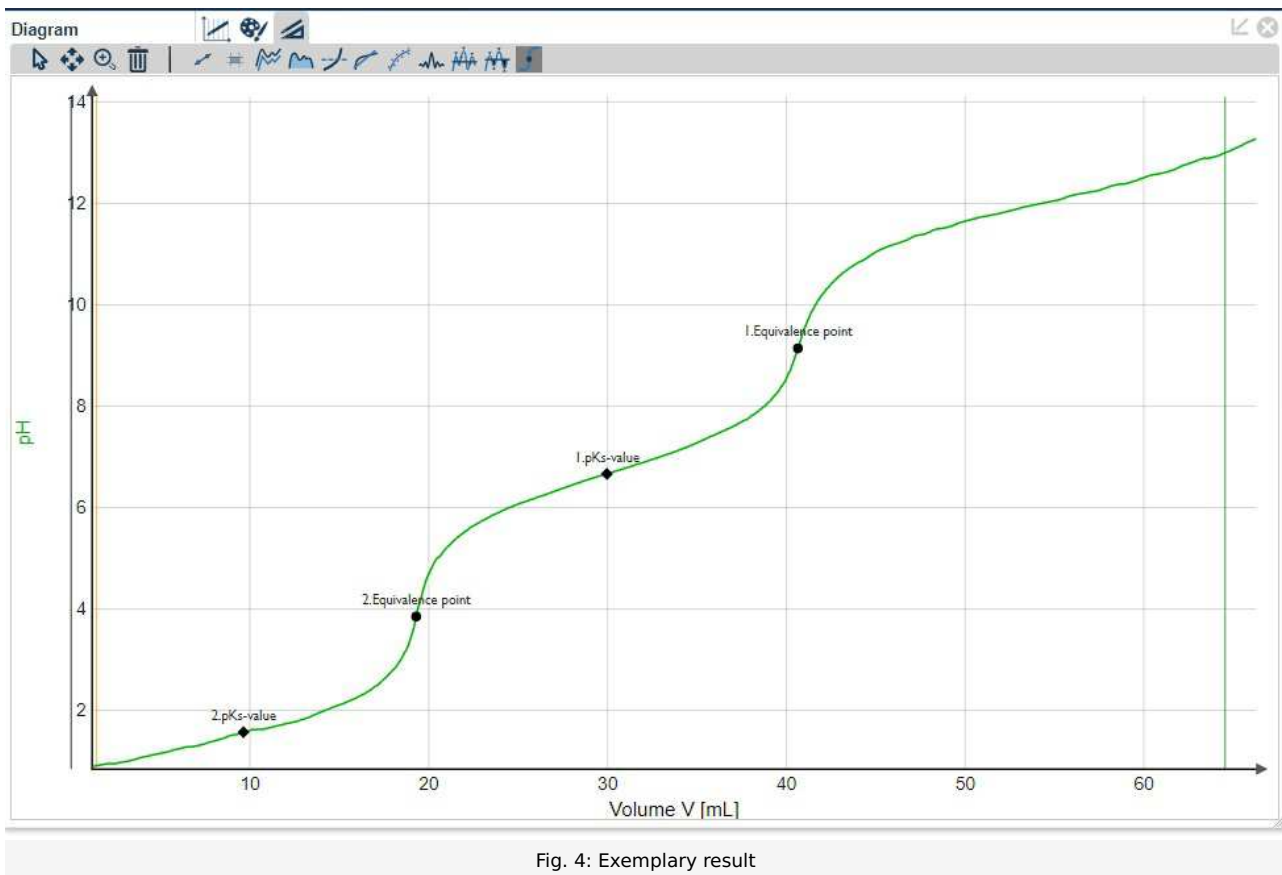

Fig. 4: Exemplary result
Fig. 4 shows the graph as presented by the programme, the measurement curve of a titration of 10 ml of 0.1 molar phosphoric acid with sodium hydroxide solution ( $c = 0.1 \text{ mol/l}$ ). To have the equivalence points and  $\text{p}K_a$  values displayed use  in the top bar of the diagram.
- Fig. 4 shows the typical curve of a titration of a polyprotic acid against a strong base. The last equivalent point cannot be determined under the present experimental conditions.